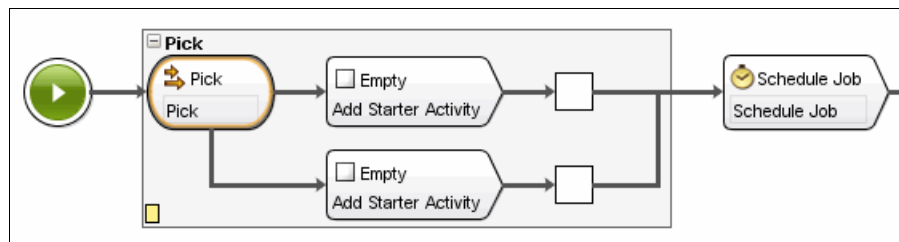

Figure 11-19 Orchestration showing the Pick activity to allow multiple starter activities
3. Drag the Pick activity to the empty orchestration as the first activity in the orchestration in front of the Schedule Job activity, as shown in Figure 11-19. A Pick group is created and shows two empty starter activities. The Pick group enables more than one starter activity to be used in the orchestration. If you want to have more than two starter activities, right-click the Pick item, and use the Add Receive Branch menu item.